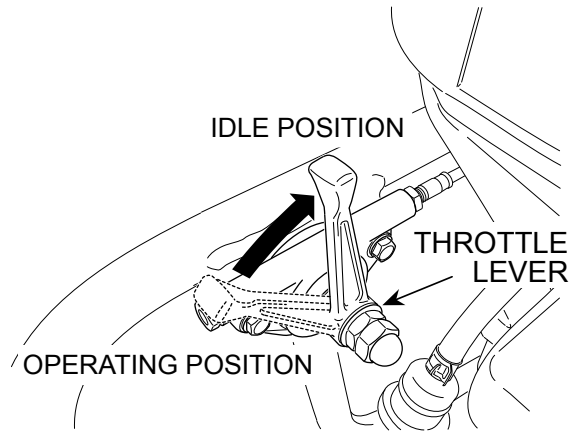
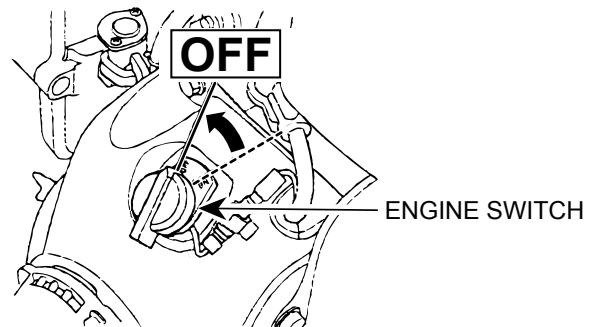

Figure 13. Throttle Lever (Idle Position)
Figure 14. Engine Stop Switch (OFF)
5. To stop the tamping action, move throttle lever quickly from operating to idle position (Figure 13). **DO NOT** move the throttle lever slowly.
1. Move throttle lever quickly from the operating to idle position (Figure 13) and run the engine for three minutes at low speed. After the engine **cools**, move the engine stop switch to the OFF position (Figure 14).